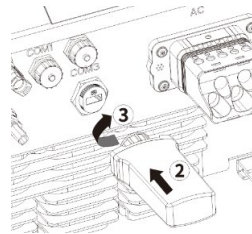

Fig. 19: Connect the wifi stick
- 4 Plug the network cable into COM1 or COM2 (see Fig. 19. Note the sequence and directions of the arrows)
- 5 Tighten the thread sleeve, then tighten the forcing nut at the end (pos. 5 and 6).